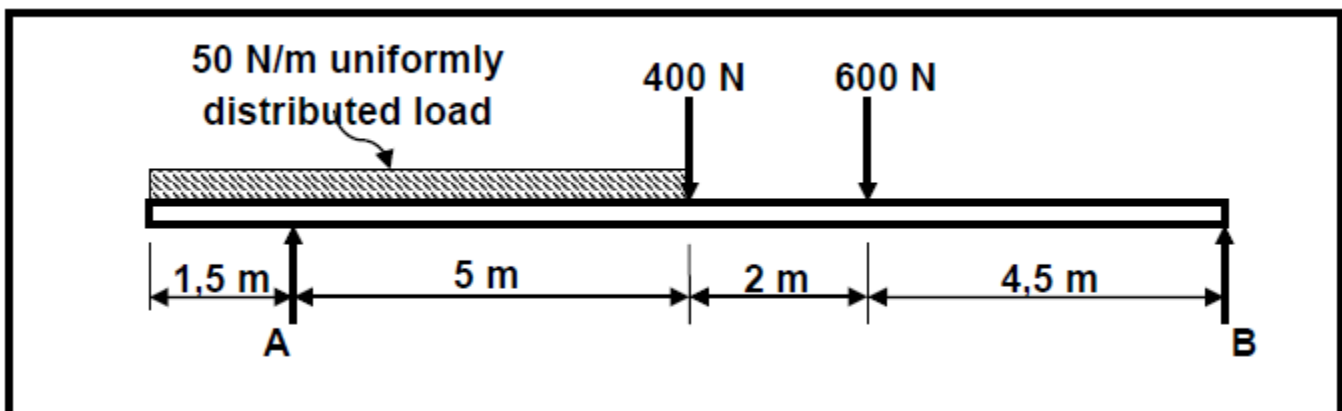

FIGURE: 3.3
3.3 FIGURE 3.3 below shows a uniform beam that is supported by two vertical supports, **A** and **B**. Two vertical point loads are exerted onto the beam, as well as a uniformly distributed load of 50 N/m, over the total left half of the beam. Determine, by means of calculations, the magnitudes of the reactions in supports **A** and **B**.